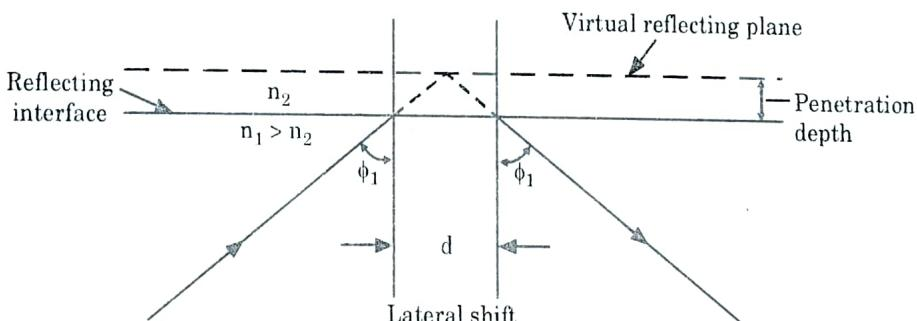

Fig. 1.17.1. The lateral displacement of a light beam on reflection at a dielectric interface (Goos-Haenchen shift).
2. Careful examination shows that the reflected beam is shifted laterally from the trajectory predicted by simple ray theory analysis, as illustrated in Fig. 1.17.1.